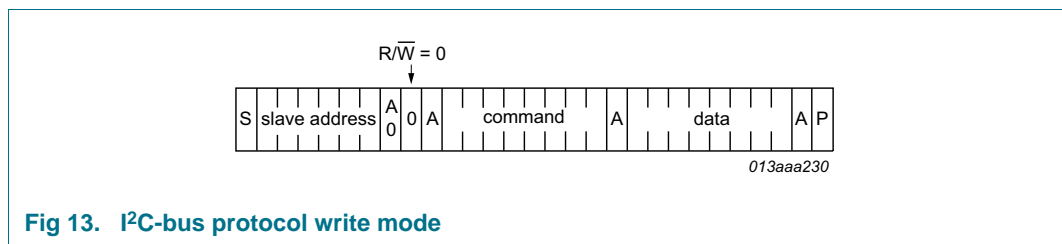

Fig 13. I²C-bus protocol write mode
The I²C-bus protocol is shown in Figure 13. The sequence is initiated with a START condition (S) from the I²C-bus master which is followed by the slave address.